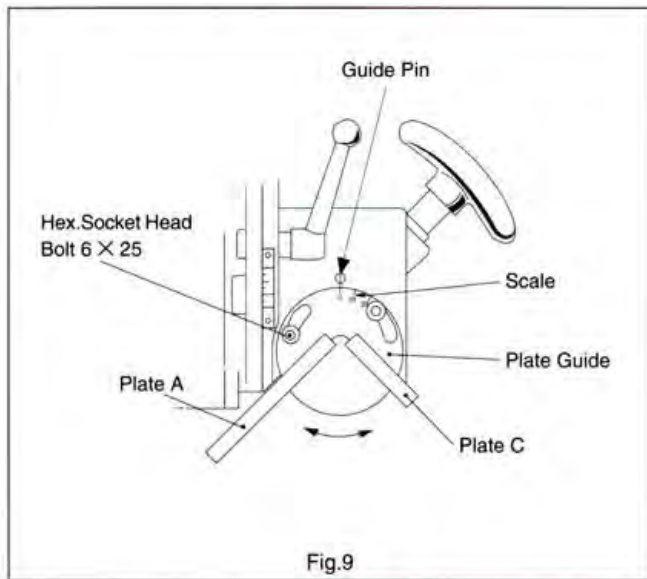

Fig.9
1) loosen Hex. Socket Head Bolt 6 × 25 on plate Guides located on both sides of the body. (Fig. 9)